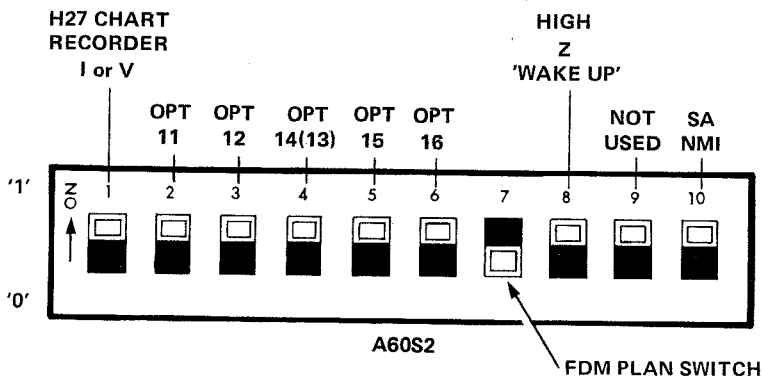

Figure 2-3 Extending FDM Plan
3. Put A60S2(7) to the "0" position (Figure 2-3).